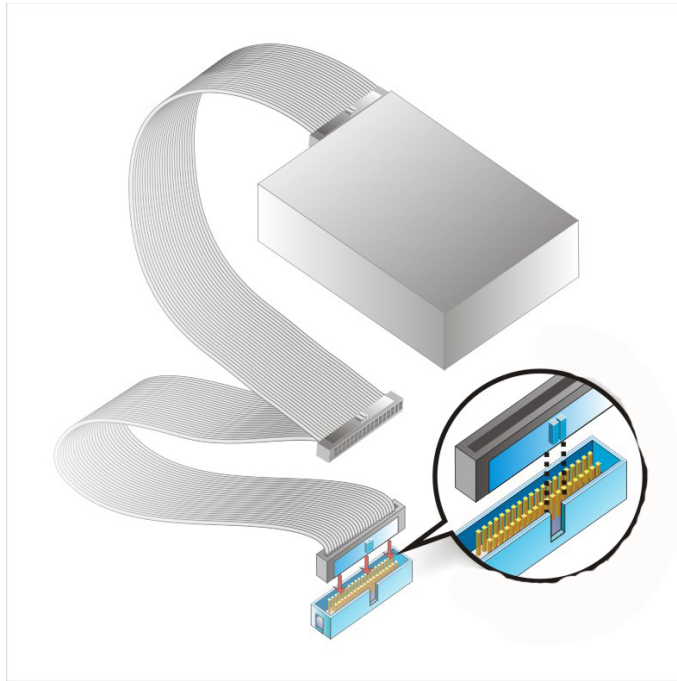

Figure 5-15: IDE Cable Connection
Step 2: Insert the connector. Connect the IDE cable connector to the onboard connector. See Figure 5-15. A key on the front of the cable connector ensures it